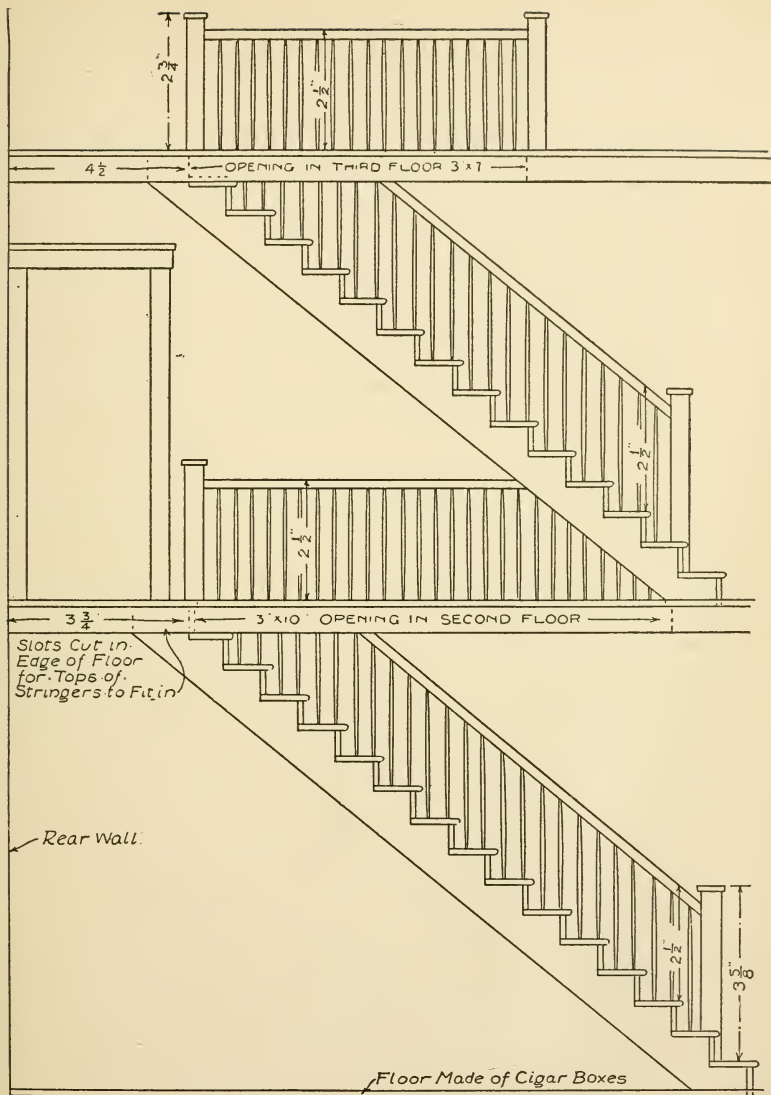

FIG. 71. — Details of Inside Stairs.
**The Stairs** from first to second floors (Fig. 71) should now be constructed as described later under the head of "Stairways," as it would be difficult to set them in place after the walls are up.
**Stairways.**— While each stairway should be built before the floor above is laid, in order that the work can more easily be done, they have been left for description here, that they might be spoken of in a general way. In Figs. 71, 72, 73, 74, and 75 will be found complete details for these.
a slot in the edge of the floors for the tops to set in, as shown in Fig. 71. Then glue on the treads and risers, and cut the bottom of the newel-post to fit over the second step. The lower end of the toothpick balusters are set into slits cut with a knife in the treads, and the upper ends fit in the groove cut in the hand-rail.
The **Balustrades** around the stair openings on the second and third floors are made in the same way (see Fig. 71). As finished floors are to be laid in the halls, as described later, it will be well at this point to fasten a strip from a cigar-box around the stair openings, upon which to fasten the newels and in which to stick the ends of the balusters.